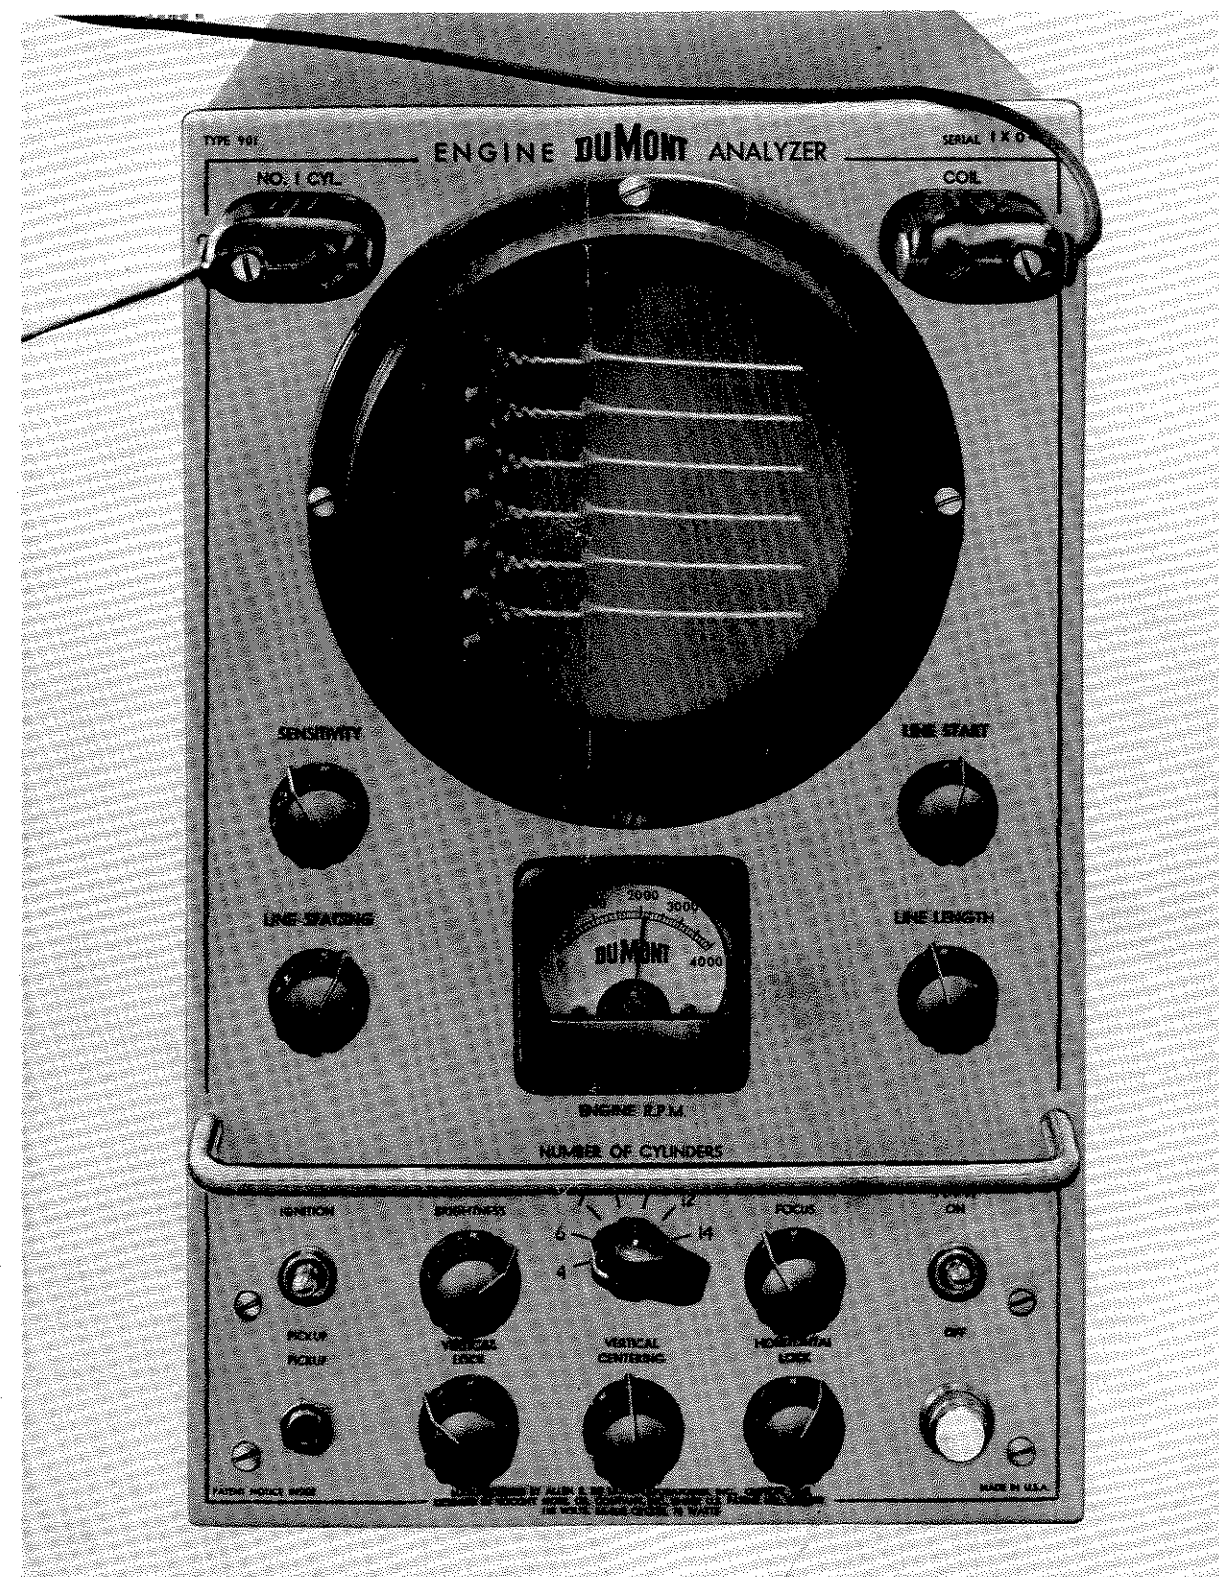

Figure 2-1. Knob Setting for Stationary Setting
2-2. FRONT-PANEL FACILITIES (See Figure 2-1)
Step 5. Set front-panel controls as shown in Figure 2-1 and turn instrument on. Readjust VERTICAL LOCK, if necessary, to obtain the proper number of lines on screen.